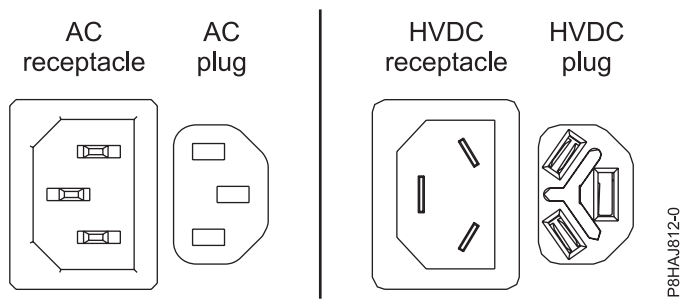
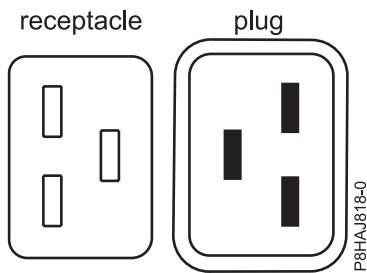
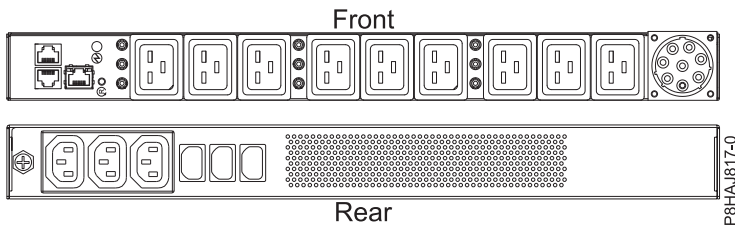

Figure 26. AC and HVDC connectors
Figure 27. Connectors for the 8408-44E system
Figure 28. PDU for the 8408-44E system
Figure 26 shows the supported alternate current (AC) and high voltage direct current (HVDC) connectors. Figure 27 and Figure 28 show the supported connectors and power distribution unit (PDU) for 8408-44E.